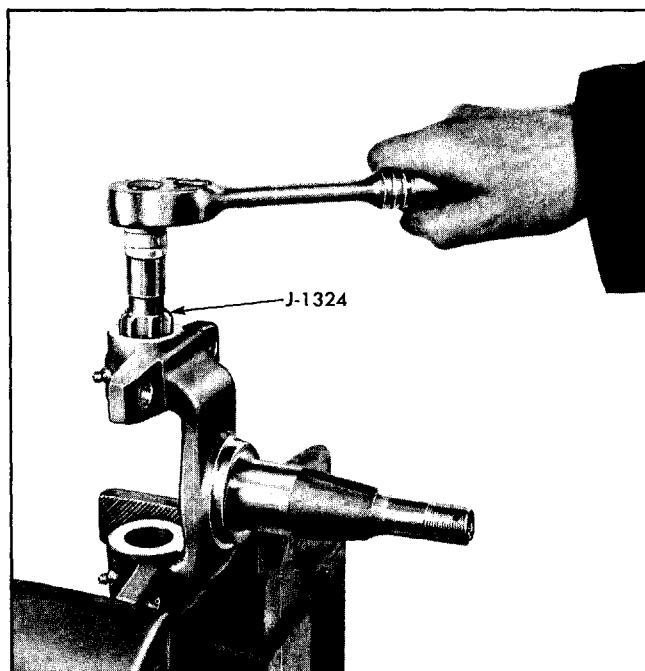

Fig. 3-21 Reaming Steering Knuckle with Reamer J-1324
1. Using Expansion Plug Reamer J-1324 (Fig. 3-21), clean up recesses in steering knuckle where metal was up set over expansion plugs.